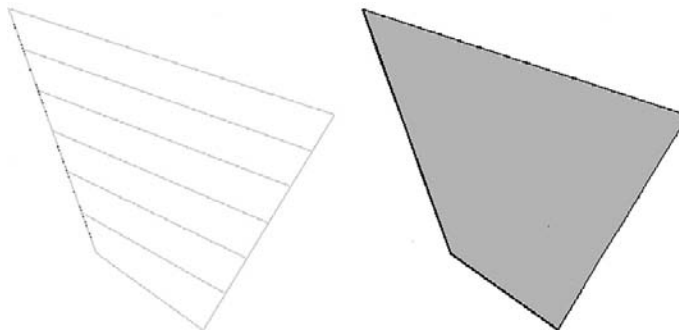

FIGURE 27.6
Step 3. Select the second line at roughly the same upper location (if you select a bottom location the surface self-intersects). The shaded and colored results are shown in Figure 27.6.